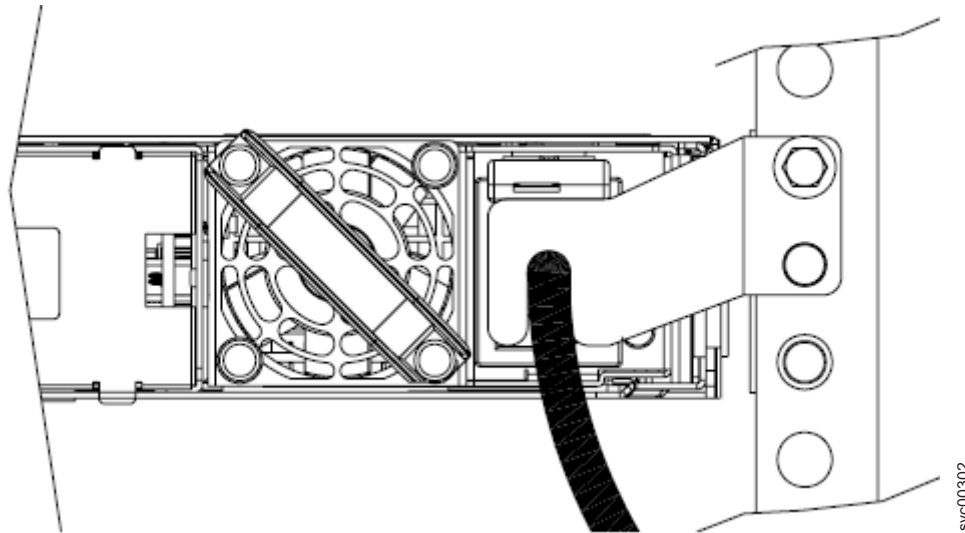

Figure 35. The SAN Volume Controller 2145-8G4 with cable-retention bracket type B attached
2. At the back of the cabinet, remove the securing bolt from the node side rail next to the power supply, as shown in Figure 35.